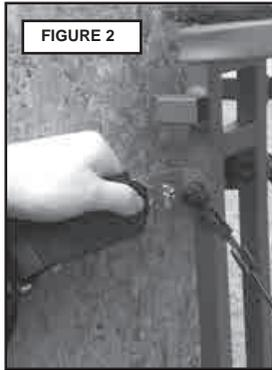

FIGURE 2
**STEP 2:** With the treestand in the folded position, wrap Tree Strap around the tree once and hook the other end into the tree strap bracket. (See Fig.1 and Fig. 2.) Ensure that the strap is not twisted and is laying flat against the tree.